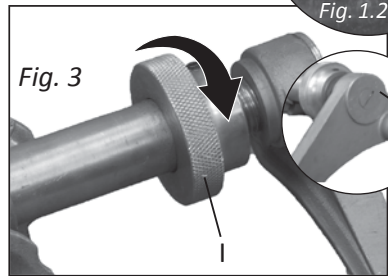

Fig. 3
1. Loosen and tighten adjustment knob to position assembly on and off pipe/tube (I, Fig. 3)